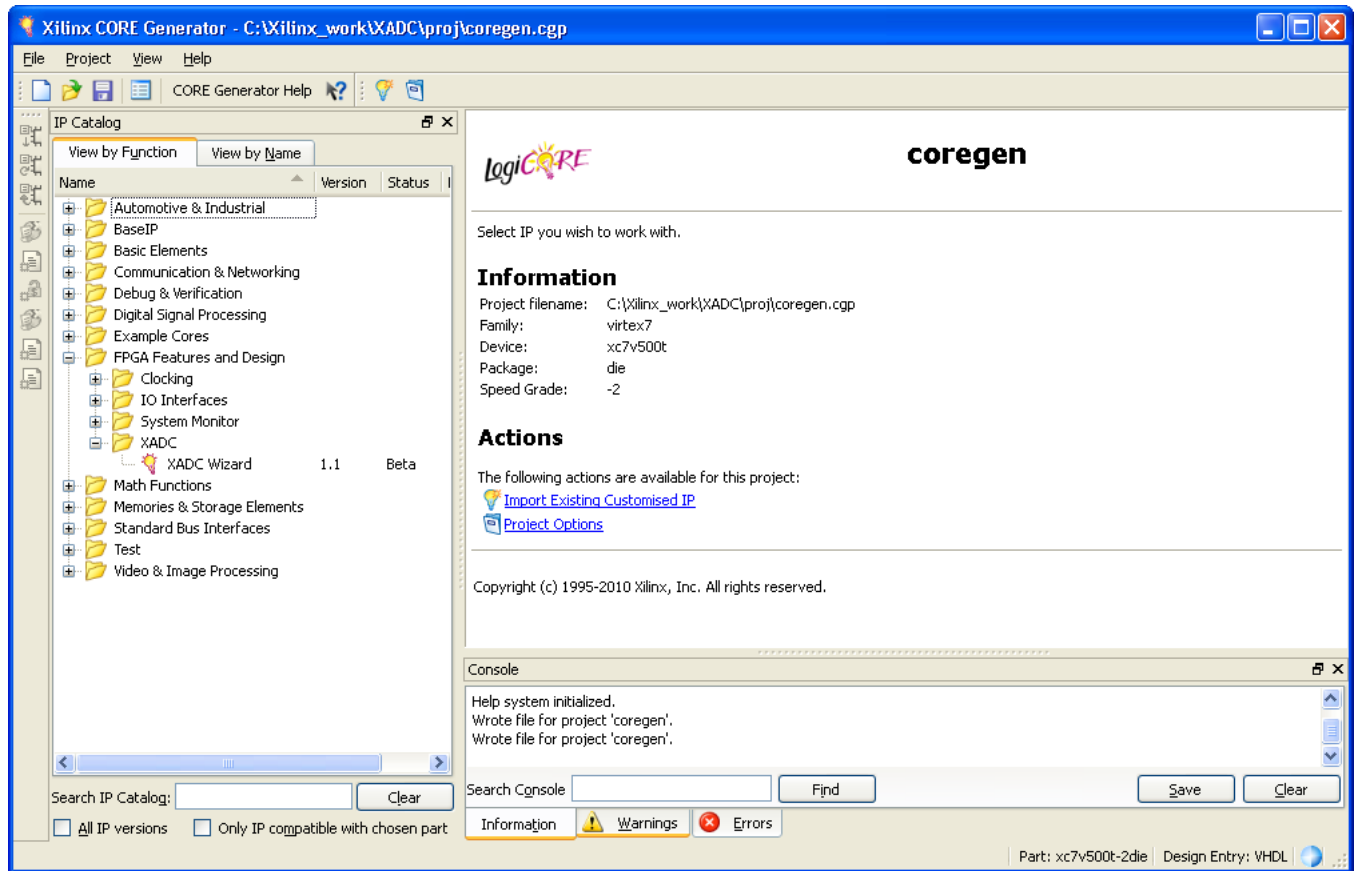

Figure 2-1: CORE Generator Window
2. After creating a new 7 Series family project or opening an existing one, the IP core functional categories appear at the left side of the window, as shown in Figure 2-1.